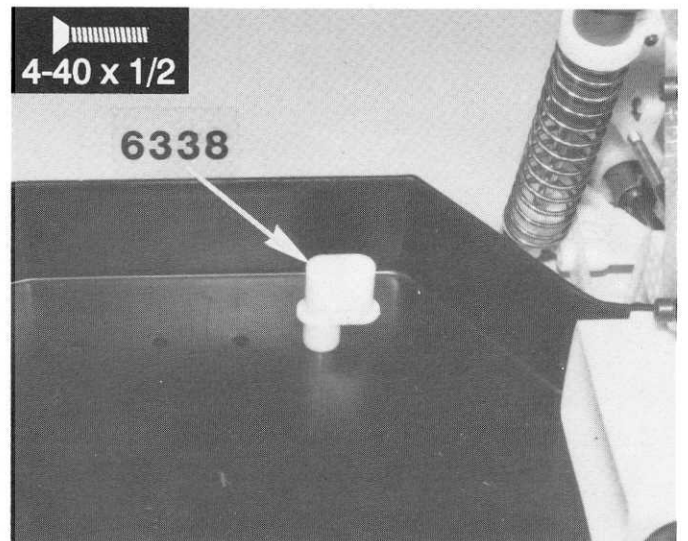

Fig. 134
□ **Fig. 134** Install the #6338 antenna mount on the chassis, where shown, with a flat head 4/40 x 1/2" screw.